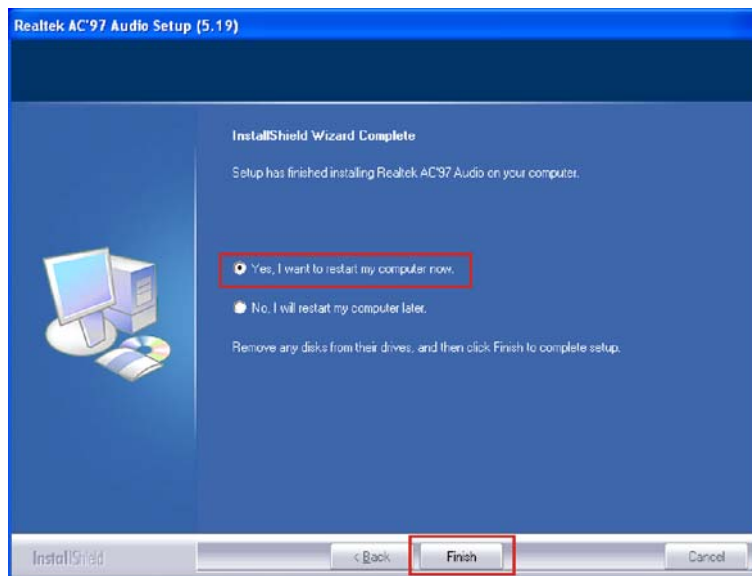

Figure 6-24: AC'97 Driver Installation Complete
Step 9: When the driver is installed, the driver installation finish screen in **Figure 6-24** appears.